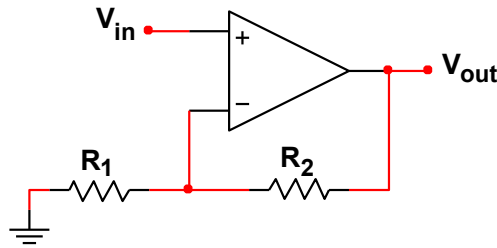

Figure 2.1 – Non-Inverting Amplifier
1. **Build the Non-Inverting Amplifier** according to your prelab design and **Figure 2.1**.
3. **Measure  $V_P$ ,  $V_N$ , and  $V_{out}$**  of the Op-Amp using the **DMM**. **Verify** that the voltage gain (K) is **10**.